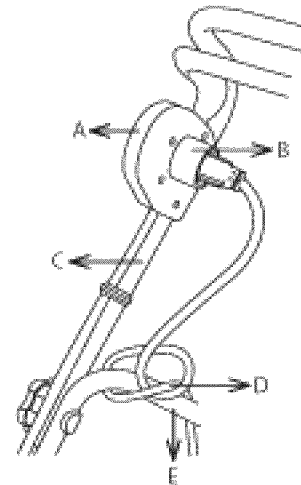

Figure 18
2. To prevent the extension cord from disconnecting during use, tie the female end of the extension cord into a loose knot on the top right side of the middle frame before connecting to the male plug in the switch housing socket of the snowthrower (Fig. 18).